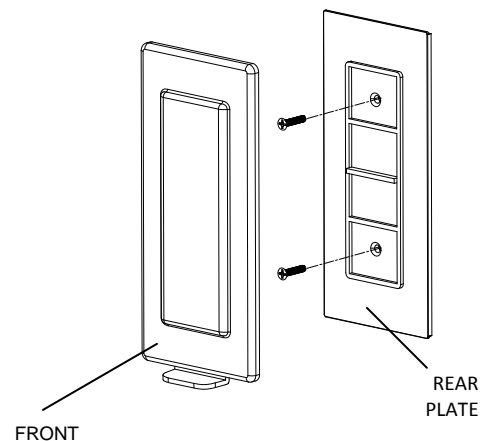

FIG 5
2. Use two screws (included) and wall anchors to install rear plate as shown in FIG. 5. (Tools required for assembly: Philips screwdriver, not included)